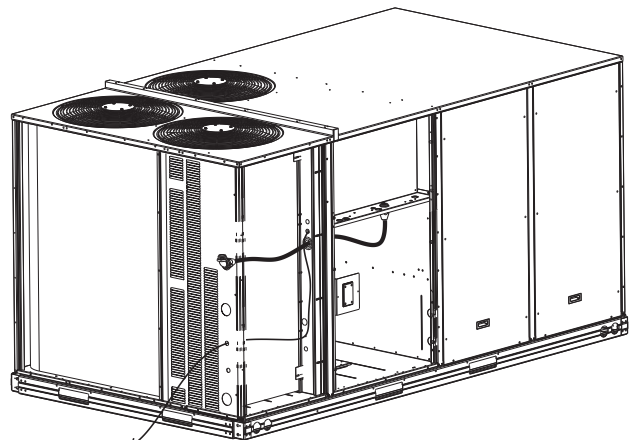

Fig. 37 — Thermostat Wire Routing
Pass the thermostat control wires through the bushing on the unit end panel. Route the wire through the snap-in wire tie and up to the web bushing near the control box. Route the wire through the bushing and into the bottom left side of the control box after removing one of the two knockouts in the corner of the box. Using a connector at the control box to protect the wire as it passes into the control box. Pull the wires over to the terminal strip at the upper left corner of the Central Terminal Board (CTB). Use the connector at the control box and the wire tie to take up any slack in the thermostat wire to ensure that it will not be damaged by contact with the condenser coil. See Fig. 37.
1. Route the humidistat 2-conductor cable (field-supplied) through the bushing in the unit's louvered end panel (see Fig. 37).
4. Use the connector and the wire tie to reduce any slack in the humidistat cable to ensure that it will not be damaged by contact with the condenser coil (see Fig. 37).
1. Route the Thermidistat multi-conductor thermostat cable (field-supplied) through the bushing in the unit's louvered end panel (see Fig. 37).
4. Use the connector and the wire tie to reduce any slack in the thermostat cable to ensure that it will not be damaged by contact with the condenser coil (see Fig. 37).